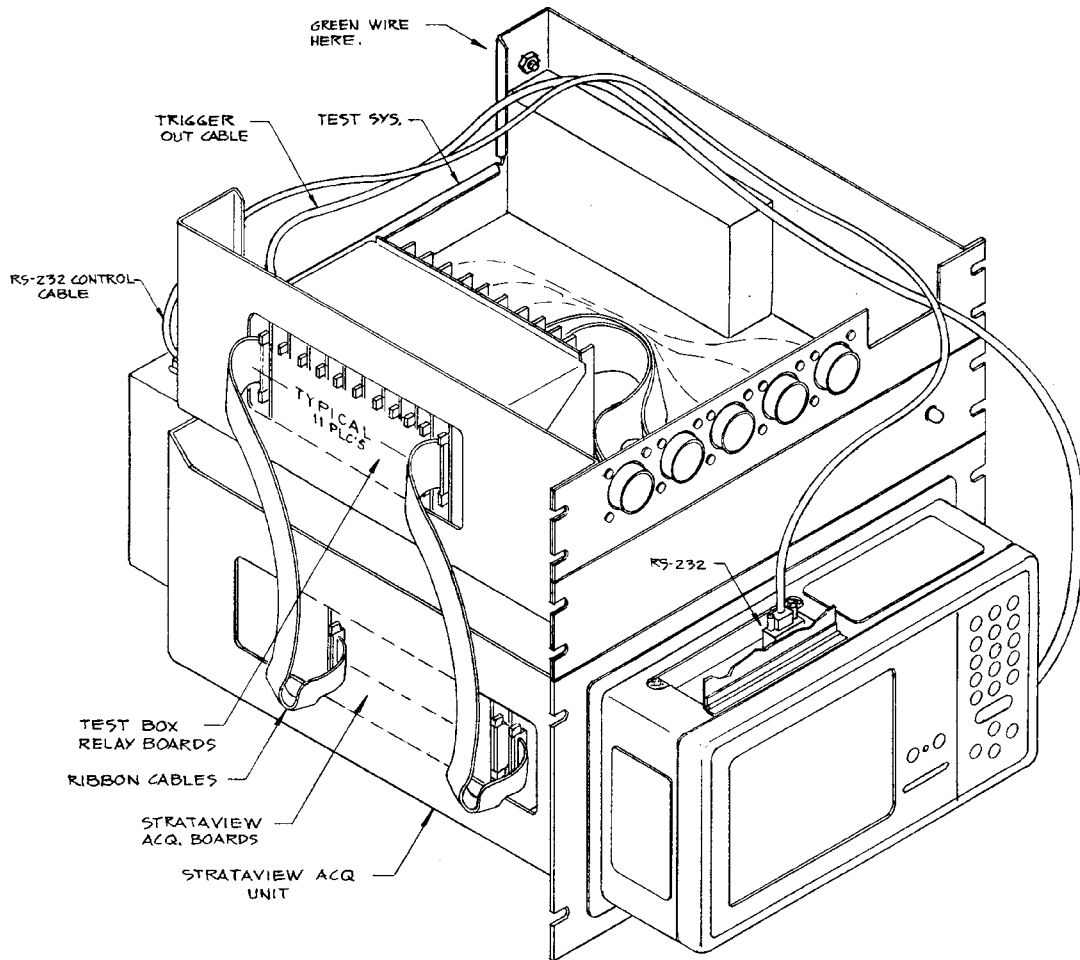

Figure 4.1 - TB-2 Test System Installation. The figure shows the positioning of the test system over the StrataVisor™ seismograph.
The TB-2 is designed to be mounted in a standard instrument rack directly above the StrataVisor™ seismic acquisition unit that it serves. The Test System itself requires 7" of vertical rack space. Refer to Figure 4.1 for additional clarification of the following procedure.
- Connect the RS-232 cable and trigger cable. As indicated in Figure 4.1, connect the RS-232 cable from the CNT-1 to the connection marked RS-232 Control Input.
- Connect the ground wire from the lug indicated on Figure 4.1 to the ground connection on the rest system.